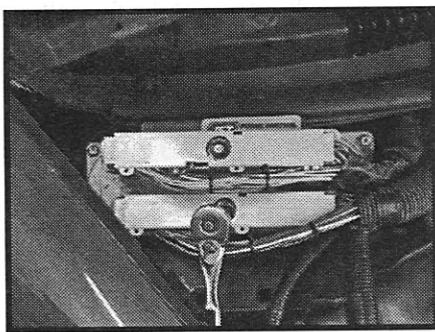

Figure 7
7. Install the factory wiring harness onto the JET module. (see Fig. 7). Turn the center bolt clockwise to slowly tighten the harness and module onto the computer. Make sure both the PCM and wiring harness get seated all the way down and straight.